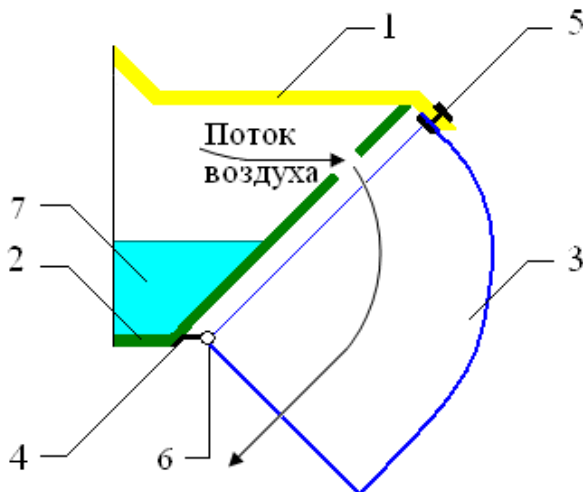

Fig.1. The cross section of the flexible fence (cross).
Schematic diagram of the flexible protection (TH) is shown in figure 1. The flexible protection i.e. "Skirt" consists of segments of nylon-covered neoprene. Each segment is centered over a respective air path in the housing. Due to the design maximizes the flexibility while overcoming obstacles. The lower part of the segments attached to the body with plastic ties, which in turn are fastened to the bales. the proposed on the bottom of the case. The upper part of the segments attached to the hull by means of two plastic screws. Pressure for lifting is formed by directing about one-third of air drawn by the propeller under the bottom of the vessel. This air circulating in the air channel of the housing of the HOVERCRAFT and is fed through openings on each segment of the skirt.